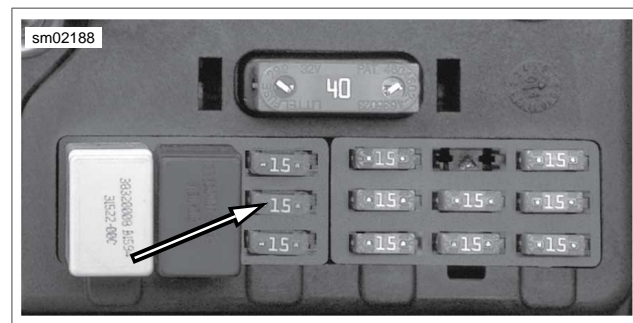

Figure 8-11. Fuel Pump Fuse
- a. See Figure 8-11. Remove the fuel pump fuse located in the electrical caddy.